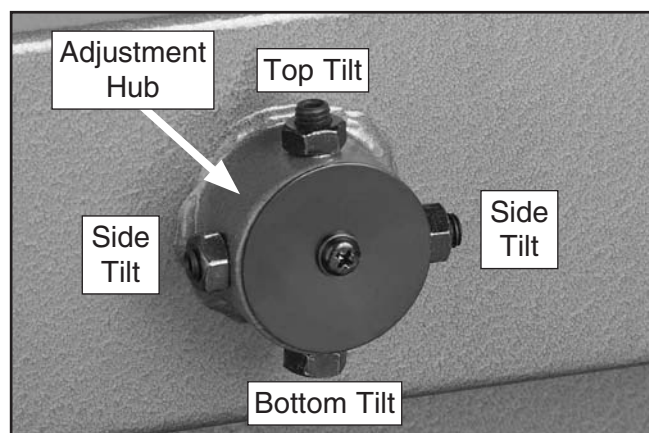

Figure 111. Lower wheel adjustment control.
2. Loosen the jam nuts on the lower wheel adjustment hub (see **Figure 111**).